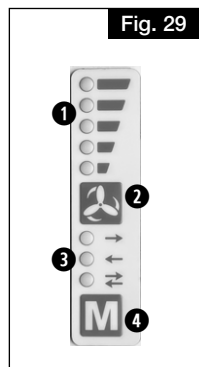

Fig. 29
- The humidity stop function can be overridden for an adjustable period (adjustable ventilation stage time) using button ② (see Fig. 29).
Pressing button ② (see Fig. 29) for more than 2 seconds activates the rapid ventilation mode (Level 5) and keeps it active for the time defined in the GUI (15–180 minutes).
Pressing button ① (see Fig. 29) for more than 2 seconds activates the sleep function. The unit remains in standby mode for the time defined in the GUI (15–180 minutes). A return to the previous operation is possible at any time by pressing a button.
The filter interval is reset on the control panel by pressing buttons ② and ① simultaneously (see Fig. 29).
A filter replacement is indicated by a flashing LED code. The filter change notification does not affect ongoing ventilation operation. The interval can be reset by pressing both buttons ❶ and ❷ simultaneously for 2 seconds (see Fig. 29).